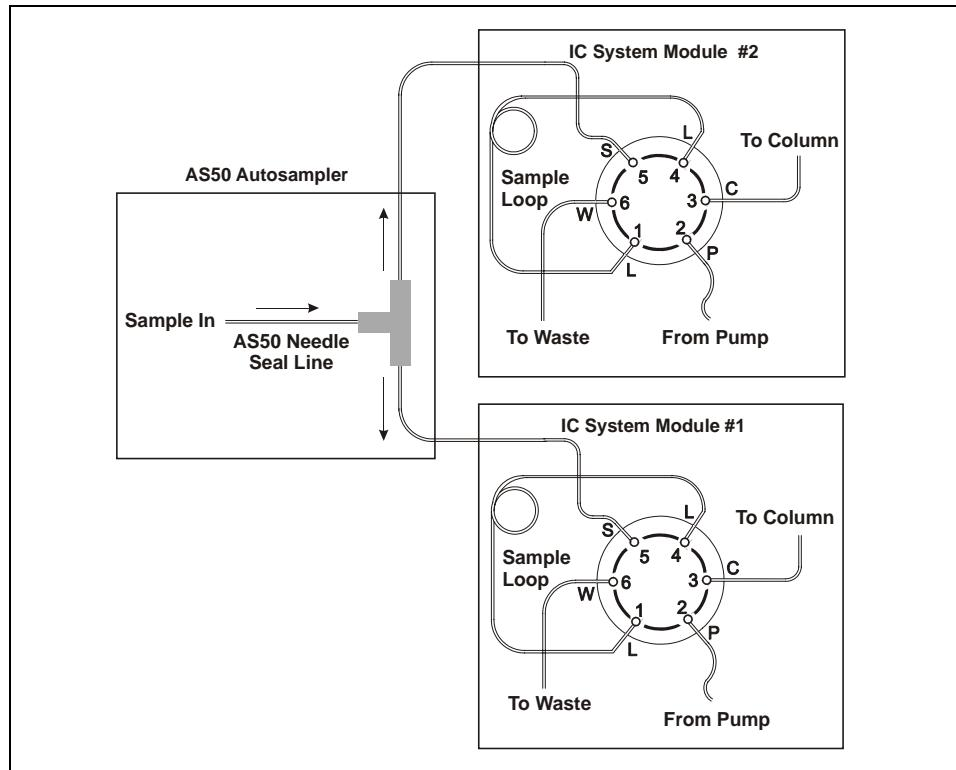

Figure E-4. Injection Valve Connections for Simultaneous Injection:
3. Connect one of these lines to port S (5) on the injection valve of the first ICS-1000/1500/2000 (see Figure E-4).
4. Connect the other line to port S (5) on the injection valve of the second ICS-1000/1500/2000.